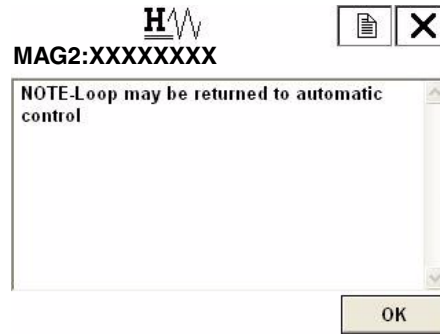

Figure 139.
3. A note of caution appears as shown in Figure 139. To proceed, press F4 (OK).